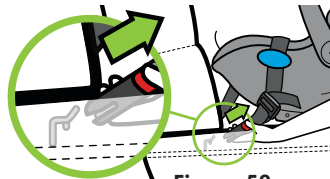

Figure 58
- Press and hold red release button while pulling UAS Connector as shown in **Figure 58**.